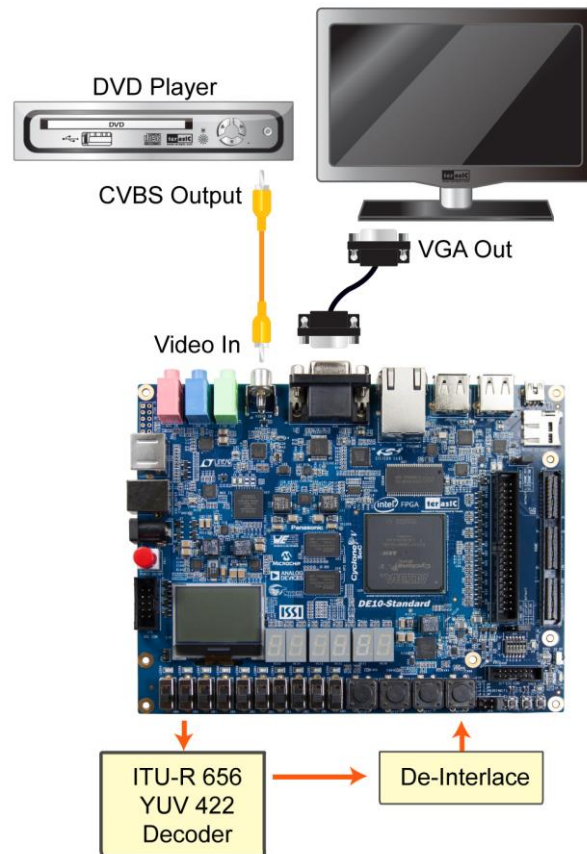

Figure 5-10 Setup for the TV box demonstration
- Connect a DVD player's composite video output (yellow plug) to the Video-in RCA jack (J6) on the DE10_Standard board, as shown in Figure 5-10. The DVD player has to be configured to provide: